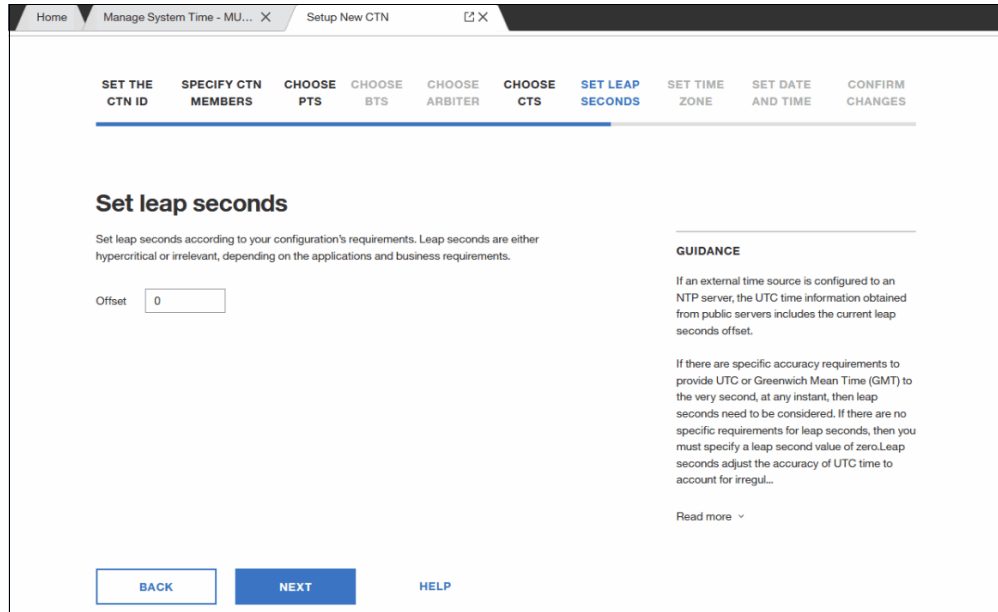

Figure 8-38 Set leap seconds
- The Set leap second window opens. Define the applicable value for the leap seconds offset. Then, click **NEXT** to continue (see Figure 8-38).